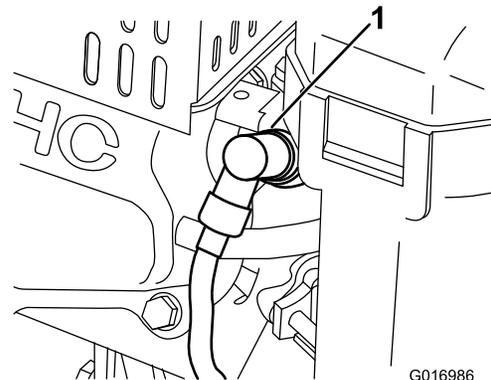

Figure 30
1. Pull the molded wire off of the spark plug (Figure 30).